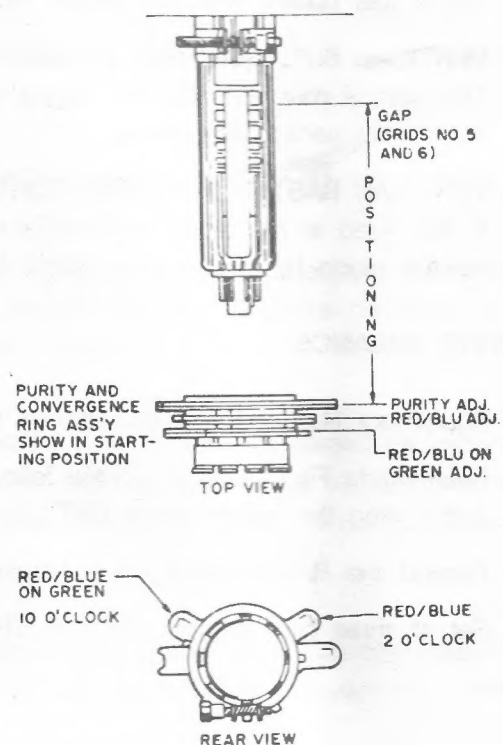
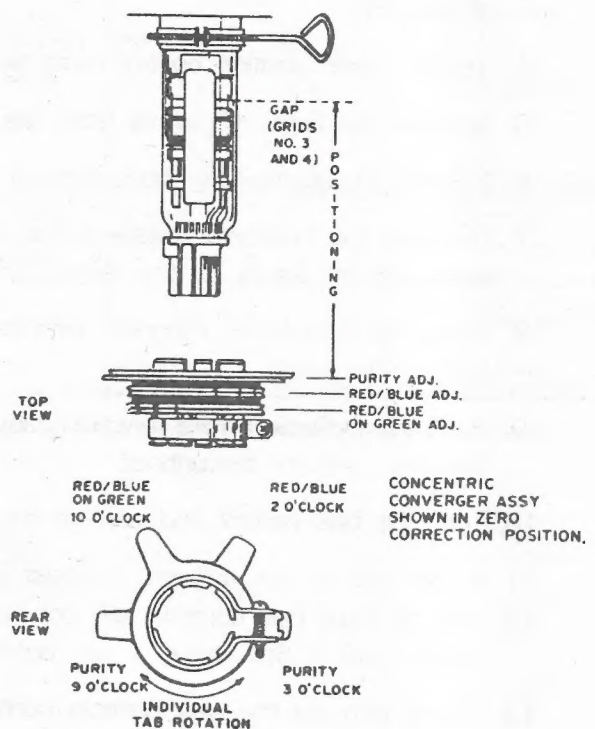

Fig. 1
Fig. 3
2. Referring to Fig. 1 and 3, do the following adjustment in subdued light after degaussing and setting the purity of the CRT
2. On picture tubes with a 22.5mm neck diameter, set the ring assembly on the CRT neck with the center line of the purity ring-pair over the gap between grids No. 5 and 6. See Fig. 1 (For picture tubes with a 29 mm neck, use the gap between grids No. 3 and 4 Fig. 3)
3. Make certain that the magnetic ring-pairs are in their correct starting position before beginning this procedure. The correct starting position for the purity ring-pair is not necessarily the one shown in Fig. 1, 3. The correct starting position will vary from ring assemblies from one manufacture to another. It will be necessary to determine the correct starting position—also known as the zero correction position.
Fig. 1, 3 show a ring assembly in which each of the rings of the purity ring-pair has two—one long and one short—with some ring assemblies of this type, the zero correction position is with the long tab of one ring aligned with the short tab of the other ring. On other ring assemblies of this type, the zero correction position is with the long tab of one ring aligned with the long tab of the other ring. The way to determine which is by trying one of these orientations and then rotating the two rings together, as a pair, without changing their orientation with respect to each other.
The correct starting positions for the other ring pairs are shown in Fig. 1,3. For the other type of ring assembly(not shown), the correct starting position for the other two ring-pairs is with all of the tabs aligned with each other and pointing up, toward the anode contact of the CRT.